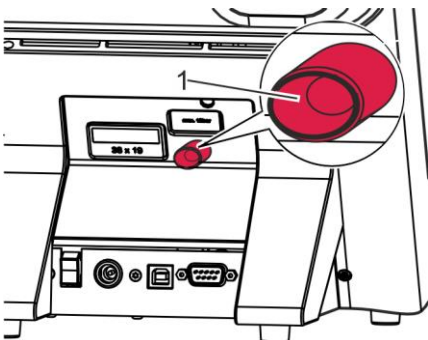

Fig. 16: Connecting the compressed air hose
4. Insert the free end of the compressed air hose into the compressed air connection on the Proofmaster (Fig. 16/1).